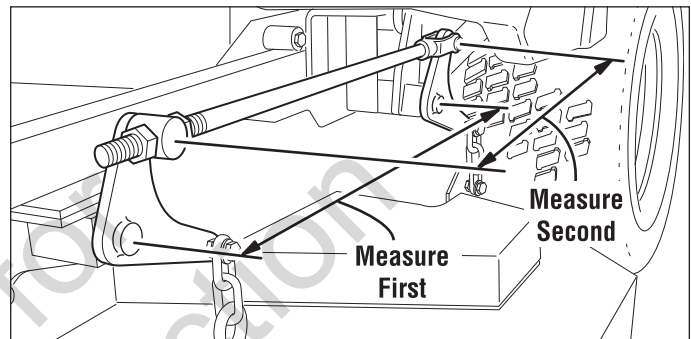

Figure 21. Check Lift Rod Timing
2. To check the lift rod timing, measure and record the distance between the lift pivots and the rod pivots. Repeat for other side of unit. See Figure 21.